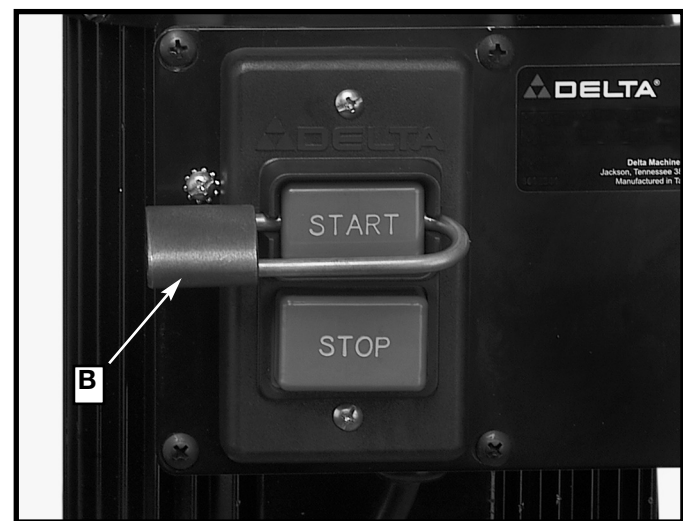

Fig. 15
IMPORTANT: When the machine is not in use, the "START" button should be locked to prevent unauthorized use, using a padlock (B) Fig. 15 with a 3/16" diameter shackle.